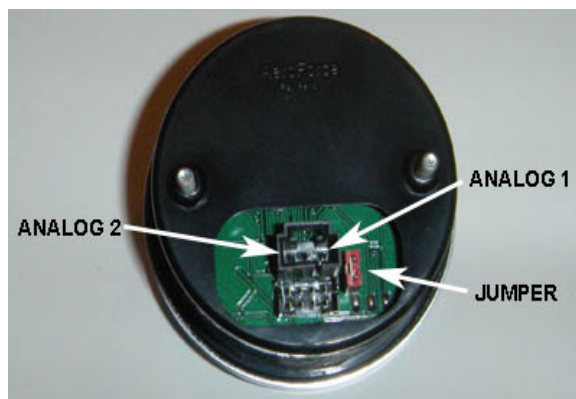

Figure 1
- 4. Plug both cables into the back of the *Interceptor*.** See figure 1. Press the *Interceptor(s)* into the gauge pod or mounting hardware.
6. **Connect 3 wire mini connector power if required*. Remove the jumper next to the main connector if connecting to external power.** This jumper is required for OBD2 port power only. Connect separate **red** power wire, which exits the middle of the 3 wire mini cable as shown in figure 1, to a switched 12v line or circuit in the vehicle. These circuits are commonly known as “accessory” circuits because they are only “hot” when the ignition is turned on. A recommended way of doing this step is to use a product called an “*Add a Circuit*”, made by *Littelfuse*, available at most car parts outlets. These kits, which sell for under \$10, allow you to easily use an existing circuit in the fuse block to power an add-on accessory such as the *Interceptor* without the need to cut or splice any wires. The use of this kit is highly recommended, as most of the problems with the gauge can be traced to a poor selection of a 12v wire, or poor connection. If the gauge randomly turns off and on while driving, 90% of the time it is a poor connection to 12v or an improper circuit was tapped into, such as a signal wire to the instrument panel.
6. **Connect the 0-5v analog inputs (optional).** You will see 3 pins above the main connector on the back of the gauge as shown in *figure 1*. The 2 outer pins connect to the analog inputs. The center pin is for switched 12v power as described above and may not be required. The right side pin, when looking at the rear of the gauge, goes to analog input 1. The left pin is for analog input 2. See *figure 1*. Included in the gauge packaging is a 3 wire cable that connects here. Once attached to the gauge, you'll see that the green wire is for analog 1, the white for analog 2. These inputs can be used to read the outputs from pressure senders, A/F ratio analog outputs, 2 or 3 bar MAP sensors, or any voltage up to 5v that you want to monitor and/or record. You can scale these signals with a menu function described below. ***These inputs are rated for 0-5 volts, with an over-voltage protection circuit built in. However, running more than 6v into these inputs for an extended period of time could effect the operation of the entire gauge, and possible damage it.***